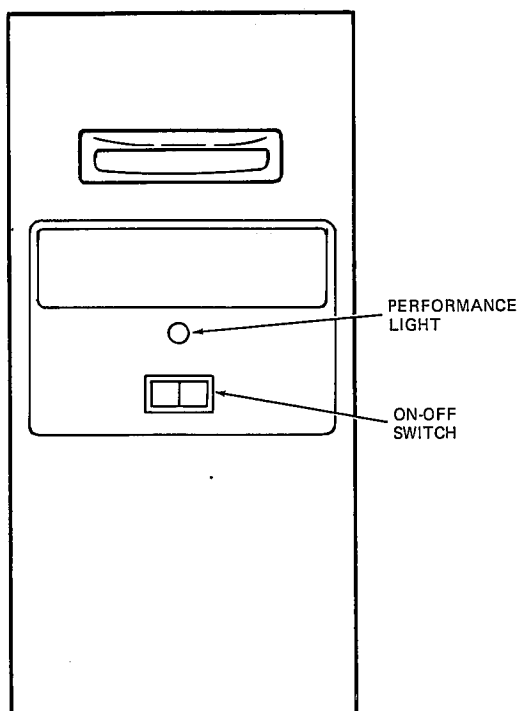

Figure 20
1. With the 120 VAC power turned on at the circuit breaker for the furnace, push the air cleaner ON-OFF switch to the on position (figure 20).
2. Push the ON-OFF switch on the power pack to the OFF position (figure 20). Wait 15 seconds and both the power pack and the collecting cell(s) will be automatically discharged.